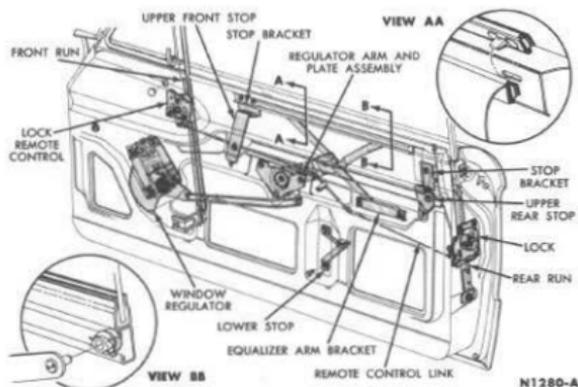

FIG. 108—Door Window and Lock Mechanism—Model 76
2. Remove both window upper stop brackets from the glass lower channel, and remove the rollers from the regulator arms (Fig. 108). Remove the glass assembly.